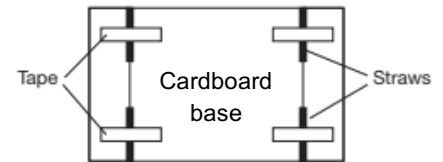

Figure 2.
6. Repeat steps 4 and 5 with the other two pieces of straw on the other line (see Figure 2).